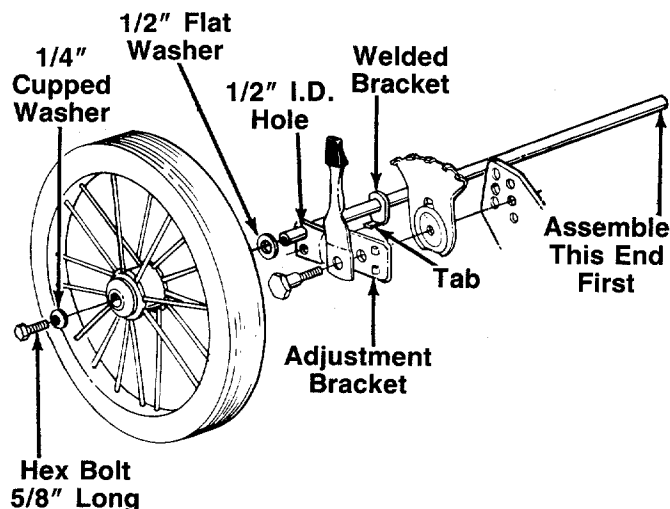

FIGURE 5.
1. There is a bracket welded on one side of the rear axle. Slide the other end of the axle into the 1/2" diameter hole on the height adjustment bracket on one side of the mower, from the inside. Slip the other end of the axle into the height adjustment bracket on the other side of the mower. Slide the axle so the tab on the welded bracket fits into the smaller hole in the height adjustment bracket. See figure 5.